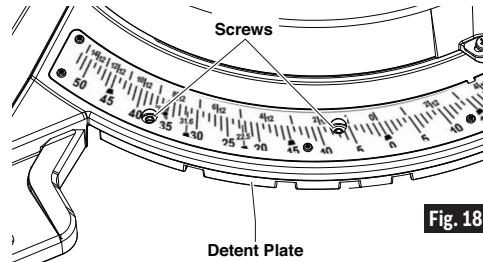

Fig. 18
- Look for four round holes in the miter scale plate. In each hole is a screw. Use the small end of the 6/4mm hex key or a 4mm hex key to loosen all four screws 1 to 2 turns. This will loosen the miter detent plate (see Figure 18).
- Lock saw down using the head assembly lock pin (item 43 – page 12).